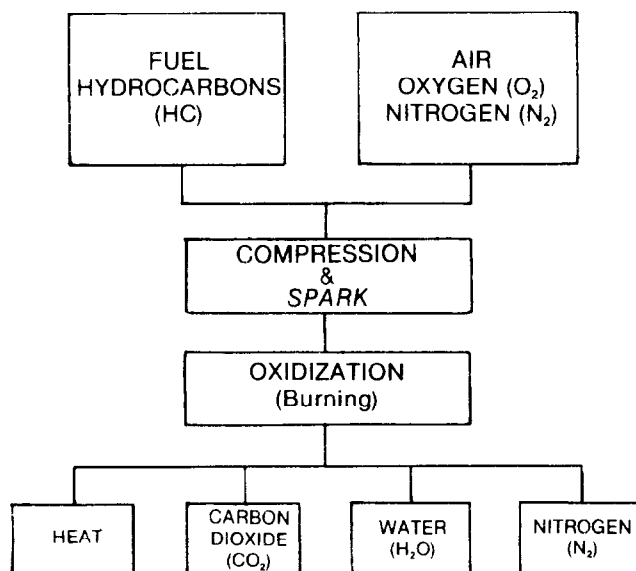

Figure 1: Perfect Combustion
In the laboratory, perfect combustion changes hydrocarbon fuel (HC) and air, nitrogen (N₂) plus oxygen (O₂), into carbon dioxide (CO₂) and water (H₂O). To do this, the fuel separates into hydrogen and carbon while combining with the air's oxygen. If ideal combustion conditions are maintained, all of the ingredients are converted to desirable byproducts while releasing a great amount of heat (Fig. 1).